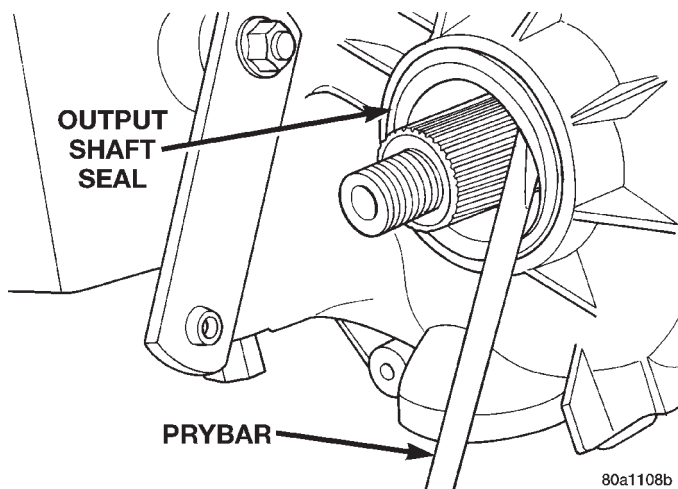

Fig. 6 Remove Front Output Shaft Seal
- (1) Hoist vehicle and support on safety stands.
- (2) Remove front propeller shaft, refer to Group 3, Differential and Driveline for proper procedure.
- (3) Remove front output shaft yoke.
- (4) Remove seal from front case with pry tool (Fig. 6).